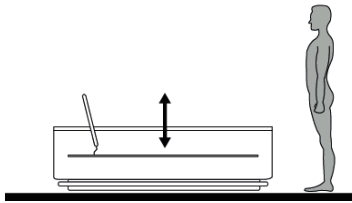

Fig 3
3. Set the bath and platform level at the height appropriate for transfer of the bather (as low as possible for an ambulant transfer or raised to allow access for a portable hoist) (fig 3)